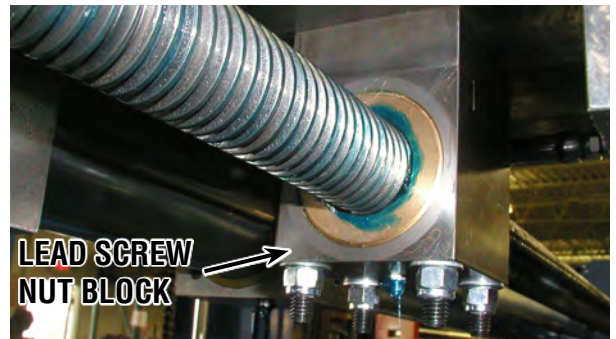

**FIGURE 3**
3. Lockout/tagout the Battery Extractor (BE) per your corporate policy.
5. Remove the connecting link and lead screw drive chain. See Figure 3.